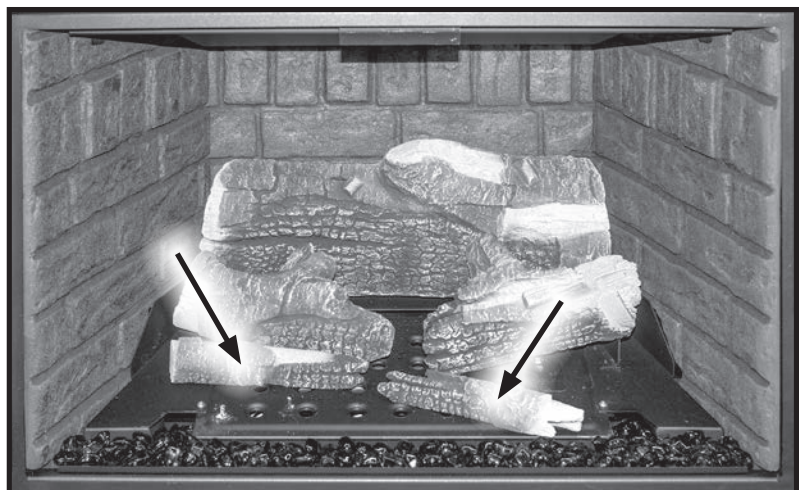

Figure 49. Front Ember Logs.
4. Next, Install the front two flat bottommed logs on the burner, as shown in Figure 49. Both logs have two drilled holes on the bottom that sit on the matching burner pins.